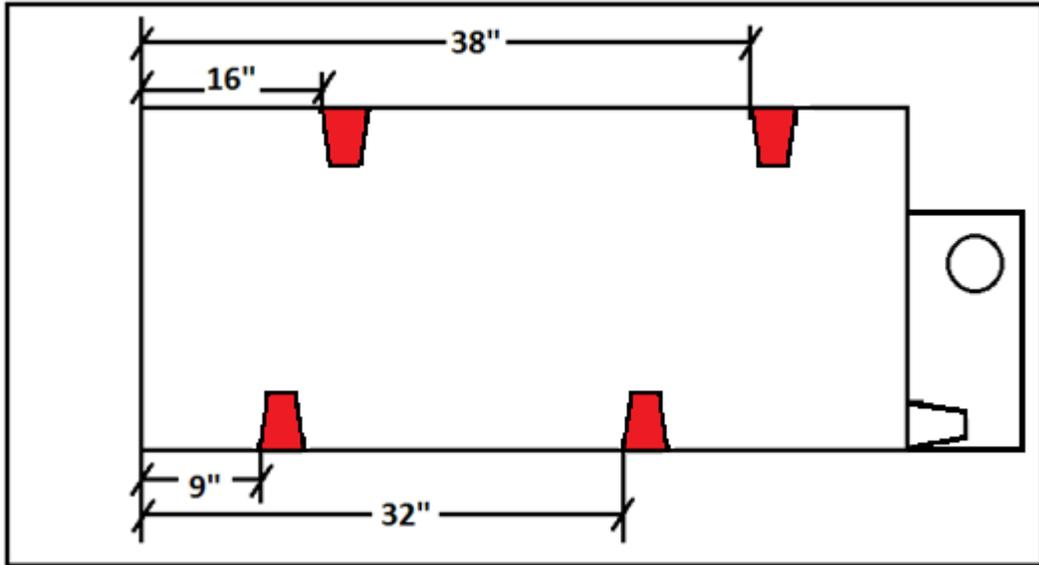

Figure 1-20
7. Funnels will be attached at 16" and 38" on one side then 9" and 32" on the other (Figure 1-20).